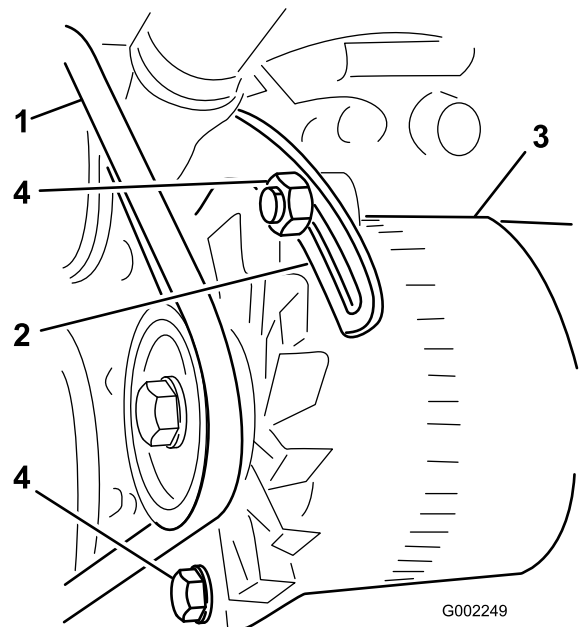

Figure 58
3. Loosen the bolts that secure the brace to the engine and the bolt that secures the alternator to the brace (Figure 58).